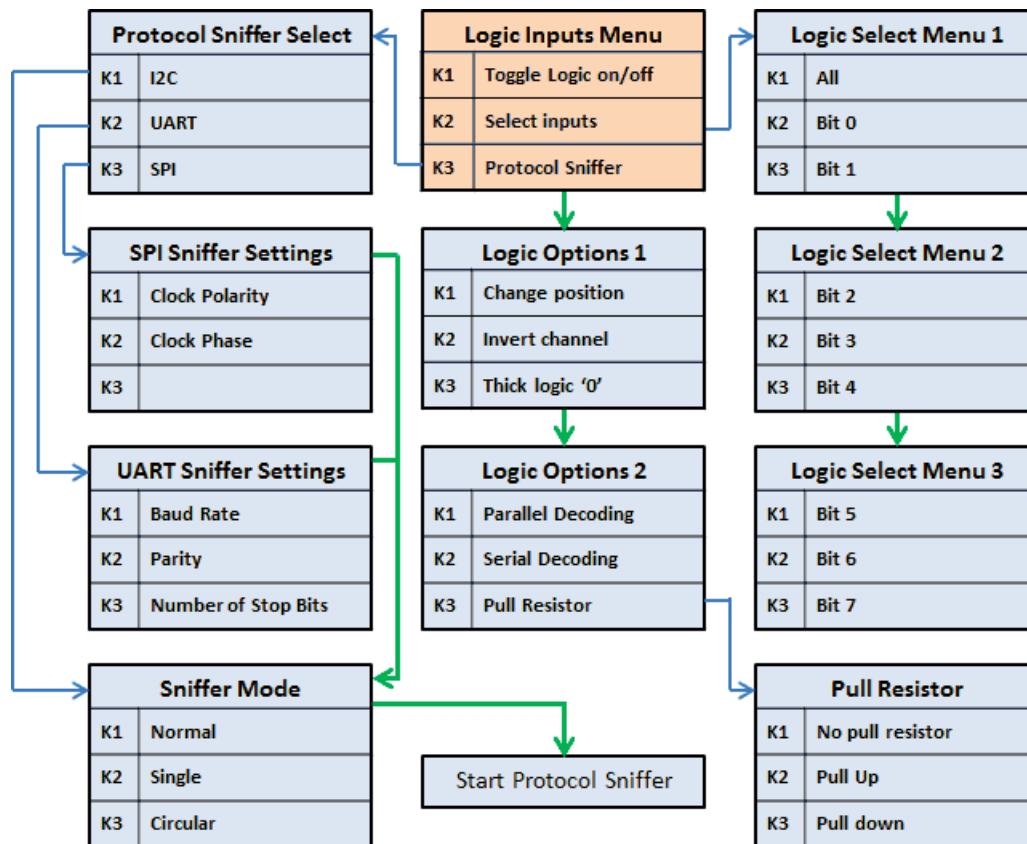

Figure 36: Logic Analyzer Menus
- **Pixel:** A single pixel represents a sample. The pixel display is useful at slow sampling rates or when used in combination with the persistent mode. Figure 36 shows the pixel display.